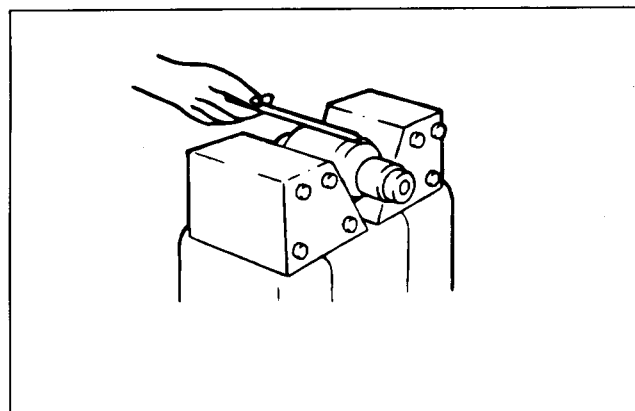

Figure 43
11. Put the armature on a growler tester to check for a shorted armature (Fig. 43). A burned commutator bar is an indication of a shorted armature. With the growler turned on, put a thin strip of steel or a hacksaw blade on the armature as it is slowly rotated. If the metal strip vibrates over a winding, that winding is short circuited. Short circuited windings are sometimes caused by metal in the commutator bridging the gap from one commutator bar to the next. By removing the bridged metal, this condition can be corrected. If this does not correct the short replace the armature.